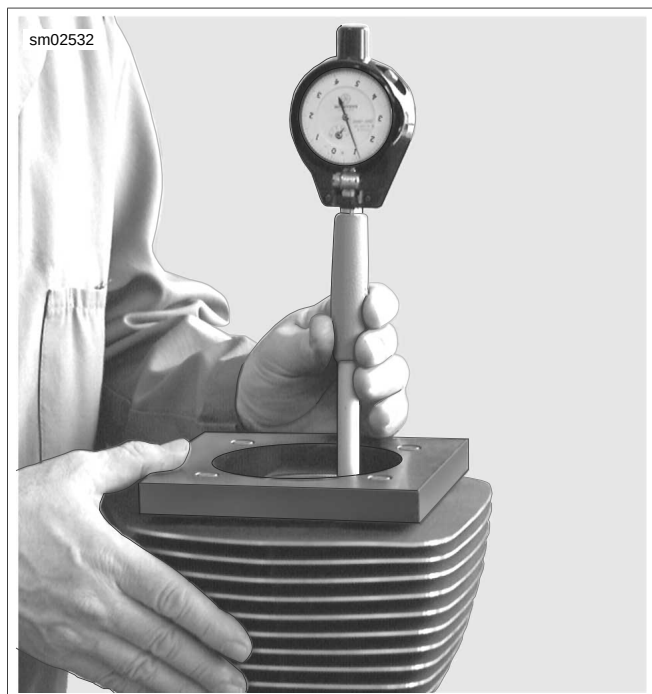

Figure 3-61. Measure for Out-of-Round and Taper
4. See Figure 3-61. Using an inside micrometer or dial bore gauge, check cylinder bore for out-of round and taper: